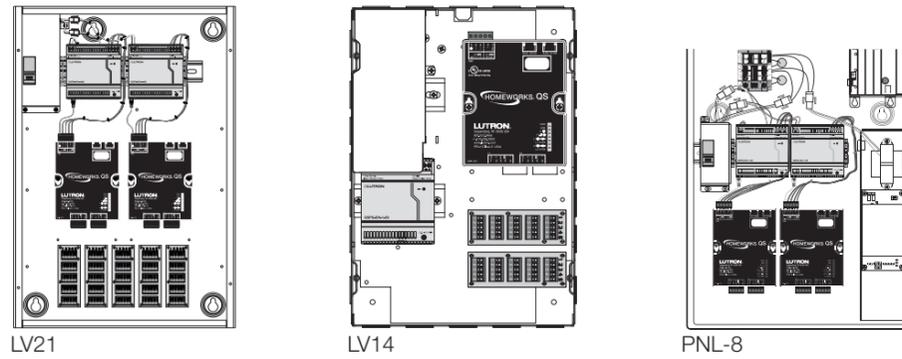

Figure 2 – Power Wiring
- 2. Connect power:** The processor is powered from the QSPS-DH-1-60 power supply. Connect the harness from this supply to the PWR terminal block on the processor (see Figure 2). This harness has 4 conductors, 1 black and 3 red. The black wire connects to pin 1 – COM and one of the red wires connects to pin 2 – P to power the processor. The other two wires may be connected to pins 3 and 4 (L1 and L2) depending on whether the configurable links, L1 and L2, require power. Refer to the HomeWorks® QS software to determine link power requirements.
- 3. Connect processor ground wire:** Connect the pre-stripped end of the ground wire (included) to terminal 5 (⊕) of the PWR terminal block. Connect the spade lug end of the wire to the panel using the included serrated screw as demonstrated in the LV21 in **Figure 2**.